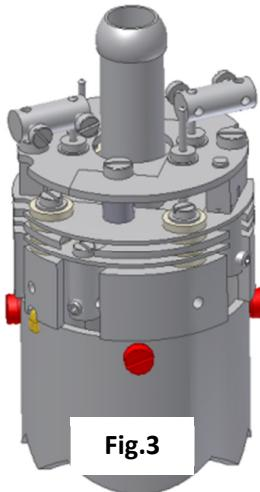

Fig.3
5. Remove the three M2 x4 screws and shakeproof washers highlighted in red that hold the source assembly to the filter assembly, see Fig.3.